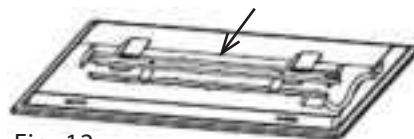

Fig. 12
3. Pull the connection terminal (Fig. 12). Use a screwdriver to remove the LED light board and replace it.